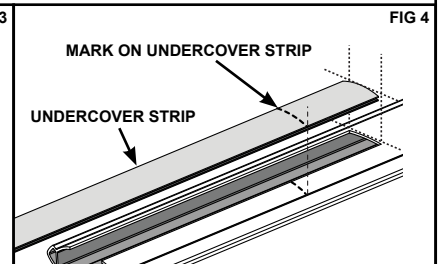

FIG 4
2. With the Cross Bars removed, line up the Undercover strip with the cut-out on the Cross Bar. Ensuring the 'Strip edge' and the 'Cross Bar cut-out edge' are aligned, mark the Undercover Strip with a line that corresponds to the line you marked on the Cross Bar, as instructed in Step 1 and Figure 4. Using a Rule and Blade, score a straight line and snap off this piece from the length of Undercover Strip. This becomes Cut Length (A).